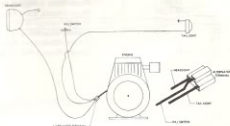

Figure 13
- Attach taillight lead wire to alternator terminal as shown in Fig. 13.